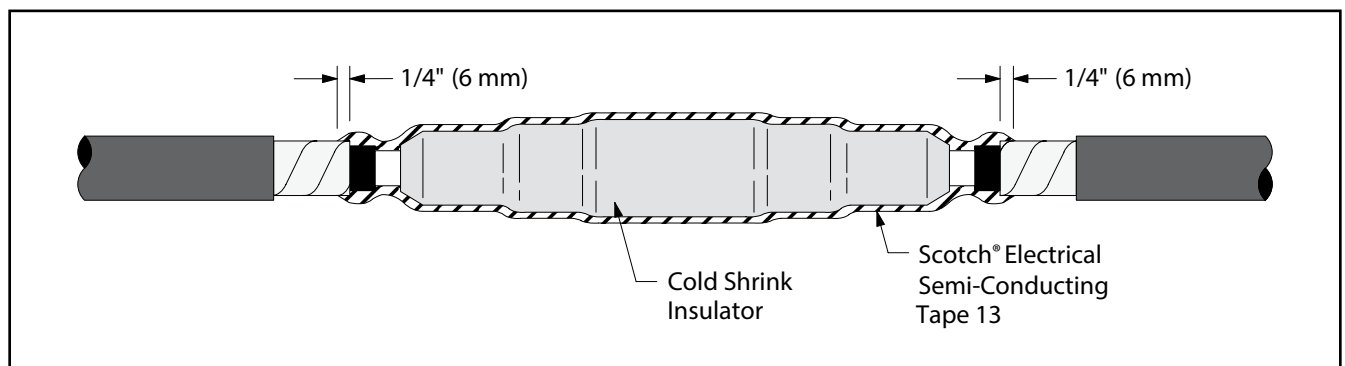

Figure 14
- Apply 1 half-lapped layer of 13 tape over insulation starting and ending 1/4" (6 mm) onto cable's metallic shielding (Figure 14).